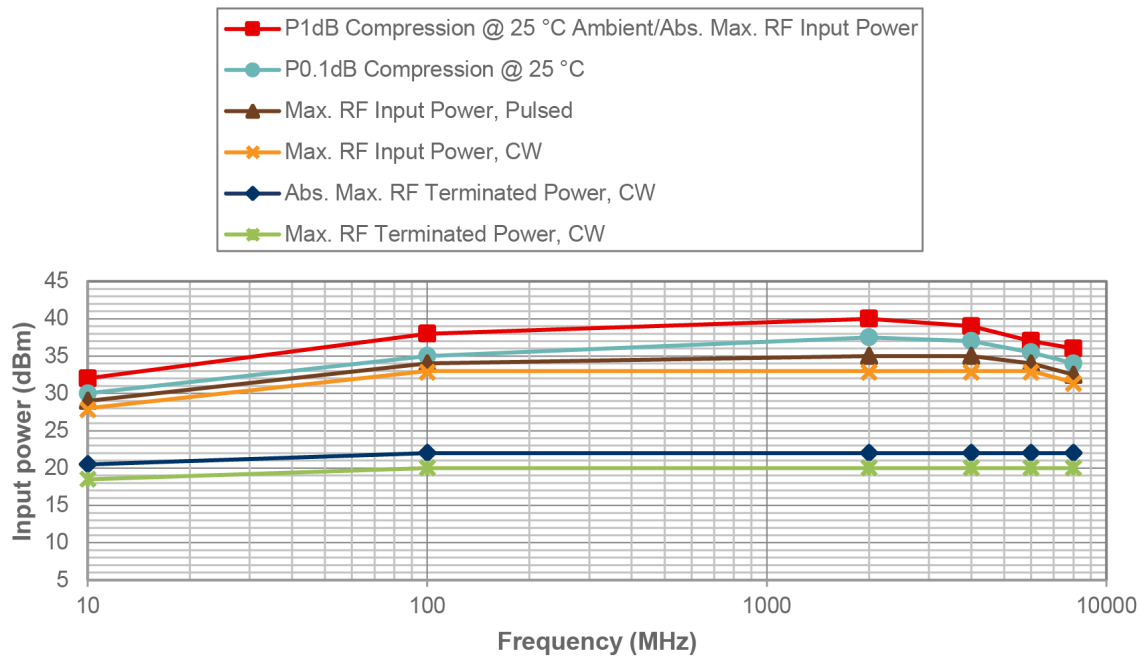

Figure 2. Power derating curve, 10 MHz–8 GHz, –40 °C to +105 °C ambient, 50Ω
Figure 2 shows the power derating curve showing P1dB compression, P0.1dB compression, maximum RF input power (pulsed), maximum RF input power (CW), absolute maximum RF terminated power (CW), and maximum RF terminated power (CW).